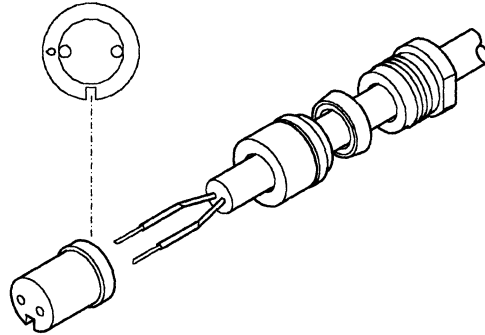

Figure 19. Insulator
- Slide the insulator over the contacts and the cable so that the insulator butts against the sleeve. Press all parts together. The contact on the bare copper lead of the cable goes into the insulator hole that has a dot next to it. See Figure 19.